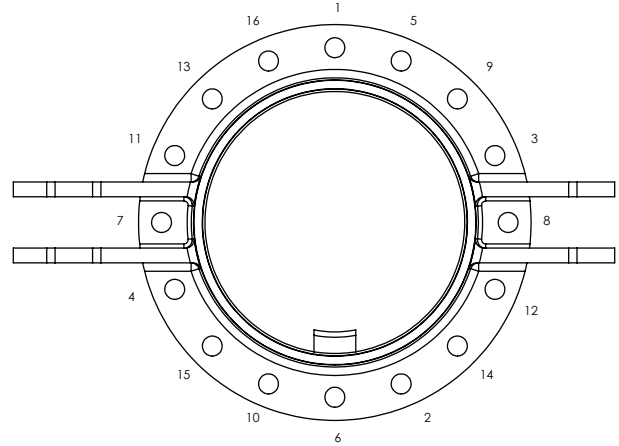

Figure 3 High Flow Hatch Torque Sequence
2. Insert the 16 bolts from the bottom up by reaching inside the tank, through the hatch opening and attach each nut to the bolt from the outside. Tighten all nuts in a star pattern (refer to Figure 3) and ensure the hatch is fastened securely. Refer to Tables 2 and 3 for torque instructions.
3. For installation of the Model ES-665-HF hatch to a flanged pipe with an 8 in. API flange pattern, simply place the base gasket on the flanged pipe, line up bolt holes and place hatch on top of base gasket. Install nuts and bolts and tighten in a star pattern (refer to Figure 3). Ensure hatch is fastened securely. Refer to Tables 2 and 3 for torque instructions.